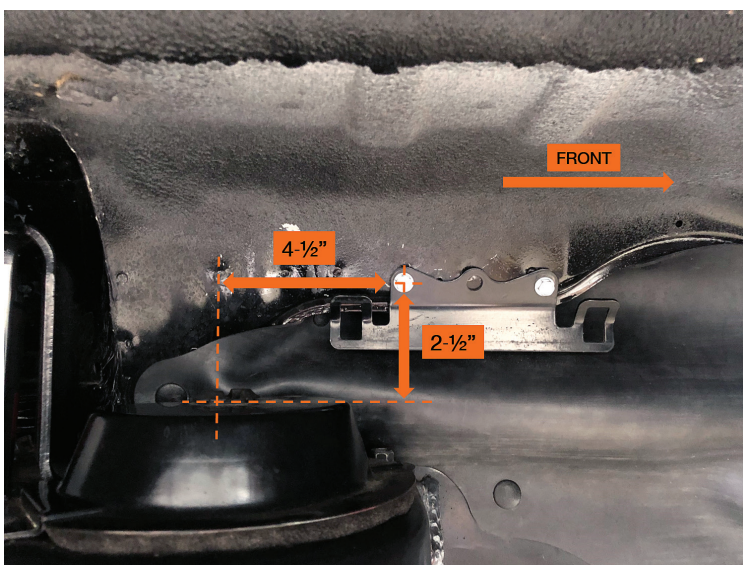

Figure 1: Front reservoir mounting bracket position
- a. Hold the mounting bracket 2-1/2" above the top flat surface of the coil bucket and 4-1/2" towards the front of the vehicle measuring from the center of the coil bucket to the edge of the closest hole of the mounting bracket (Figure 1).